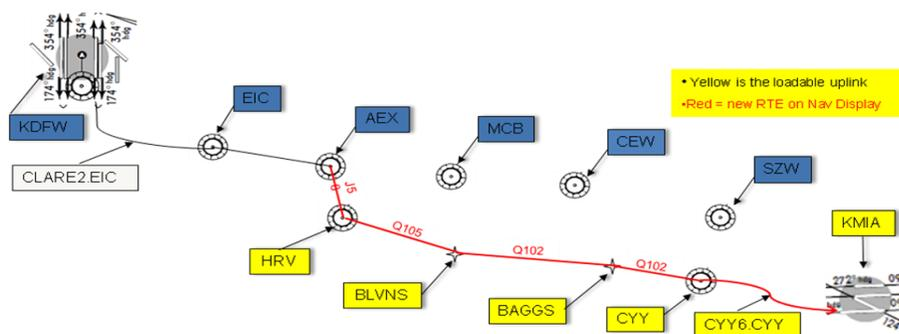

Figure 13. Depiction of a revision to the latter portion of the DCL
- A change to the clearance after the Departure Procedure Transition Fix, or downstream of the first enroute waypoint (when there is no Departure Procedure contained in the cleared flight plan). In the example shown in Figure 13 below, the portion of the clearance from AEX to KMIA has been revised and may be loaded into the FMS via the LOAD prompt.
Note: Full Route Clearance is also used when a revised DCL is not able to append to an originally cleared route of flight. In this case, the uplinked message format in Figure 13 would be used for re-routes.